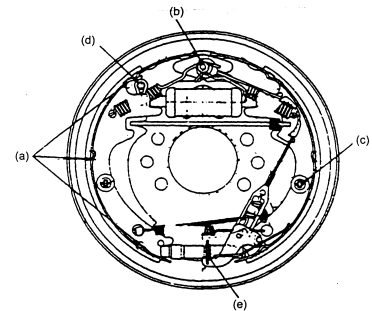

Fig .2-22
(4) As shown in Fig. 2-22, apply heat-resistant lubricating grease to all parts and be careful not to apply it to the friction plate.